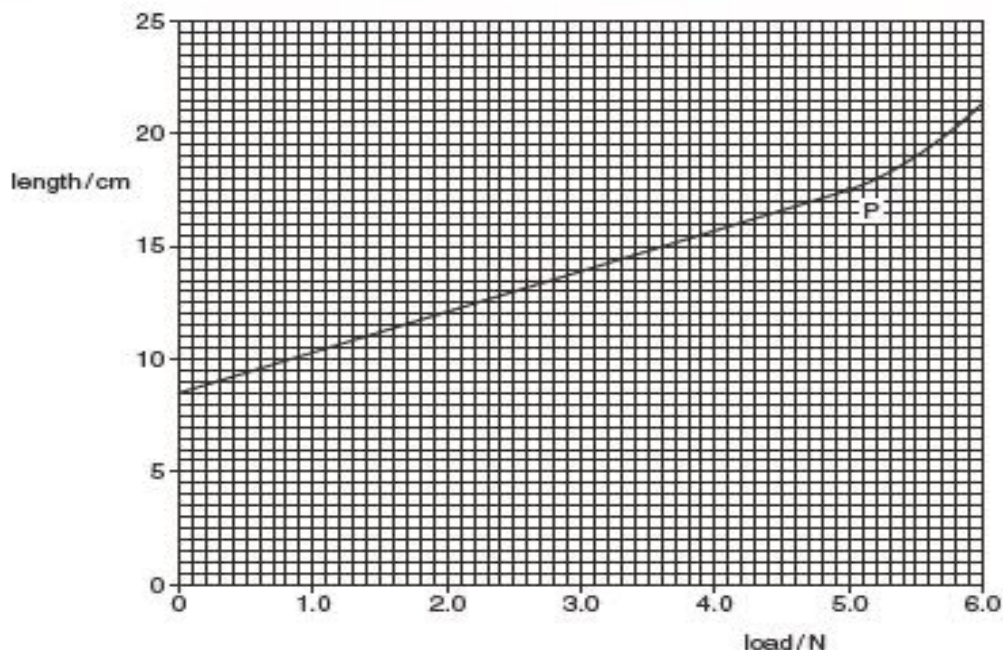

Fig. 1.1
Fig. 1.1 shows how the total length of the spring depends on the load attached.
- (a) At point P on Fig. 1.1, the line stops being straight and begins to curve.
- (b) (i) Using Fig. 1.1, determine the unstretched length of the spring.